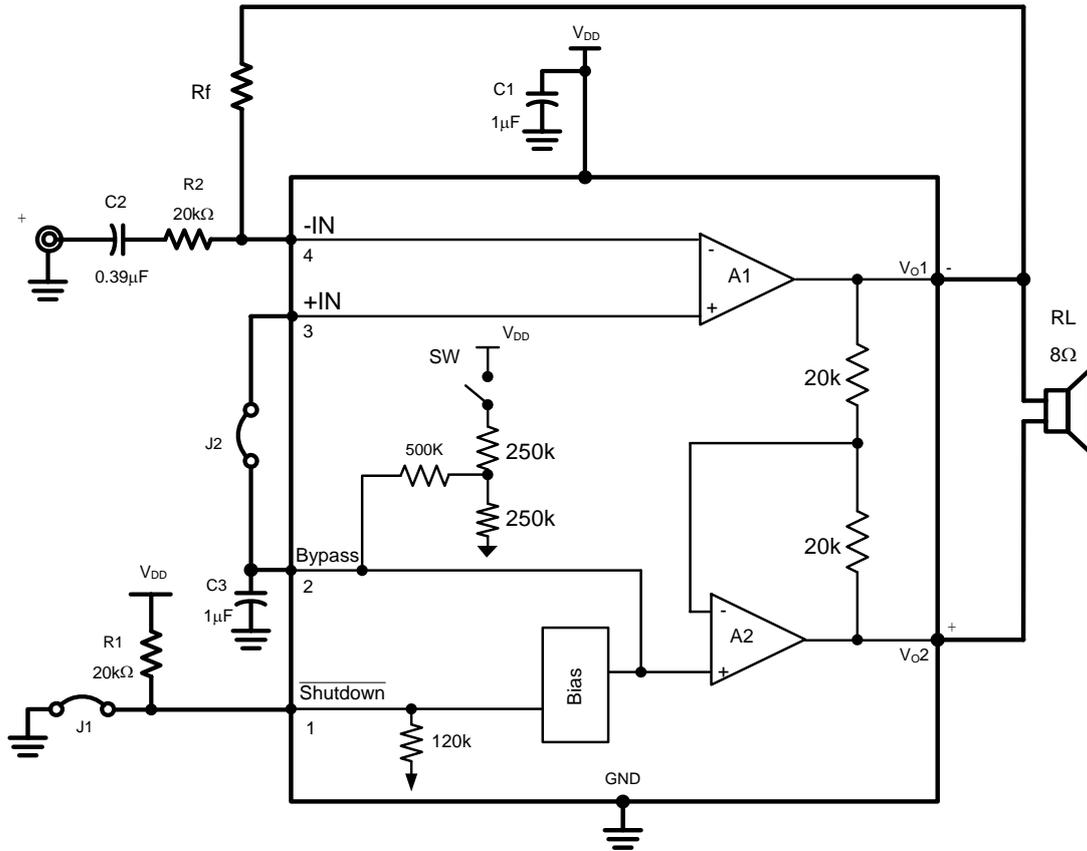

FIGURE 1. Typical Audio Amplifier Application Circuit
- PSRR at 217Hz, VDD = 5V (Fig. 1) 60dB(typ.)
The following specifications apply for the circuit shown in Figure 1 unless otherwise specified. Limits apply for  $T_A = 25^\circ C$ .
**Note 10:** PSRR is a function of system gain. Specifications apply to the circuit in Figure 1 where  $A_v = 2$ . Higher system gains will reduce PSRR value by the amount of gain increase. A system gain of 10 represents a gain increase of 14dB. PSRR will be reduced by 14dB and applies to all operating voltages.
## External Components Description (Figure 1)
As shown in *Figure 1*, the EMA1001 has two operational amplifiers internally, A1 and A2, allowing for a few different amplifier configurations. A1's gain is externally configurable, while A2 is internally fixed in a unity-gain, inverting configuration. The closed-loop gain of A1 is set by selecting the ratio of  $R_f$  to  $R_2$ , while A2's gain is fixed by the two internal  $20k\Omega$  resistors. *Figure 1* shows that the output of A1 serves as the input to A2, which results in both amplifiers producing signals identical in magnitude, but out of phase by  $180^\circ$ . Hence, the differential gain for the IC is